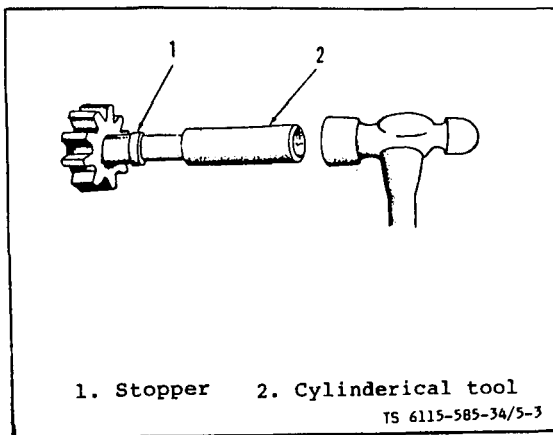

Figure 5-3. Pinion Gear Stopper Removal
(1) Remove nut (1) and lockwasher (2) from solenoid (13). Remove nut (3) and lockwasher (4) from brush assembly (21) terminal. Tag and remove lead (5). Remove nut (6) and lockwasher (7) from lower solenoid terminal, and loosen field coil connector (8).
(2) Remove cutter pin (9) and pin (10) from yoke (32). Remove screws (11), lockwasher (12) and remove solenoid switch (13).
(3) Remove through bolts (14), lockwasher (15) and remove back plate assembly (16) and thrust washer (27). Remove nut (17) and lockwasher (18) from brush assembly (21) terminal. Lift brush springs (20) and remove brush assembly (21). the insulating washer set (19) from brush assembly (21). With brush spring raised, remove other brushes (26) from brush holder (24). Remove screws (22), lockwashers (23) and remove brush holder (24).
(4) Remove retainer (29), boot (30), pin (31) and separate pinion housing (28) and frame assembly (25). Do not lose thrust washer (27).
(5) Remove yoke (32) ad **remove** armature (33) and drive assembly (35). Remove lock ring and stop (34) by forcing stop toward armature until lock ring becomes accessible. See figure 5-3. Remove lock ring and stop (34), and drive assembly (35) from armature (33). Do not disassemble drive assembly.
(6) Remove bearing (36) by pressing from pinion housing (28).
(10) Remove lever (30) and gear (31).
(11) push stopper (33) towards front bracket to release retaining ring (32). See figure 5-3. Remove retaining ring (32), stopper (33), pinion gear (34) and spring (35).
(12) Remove over running clutch (36) from the front bracket assembly (37).